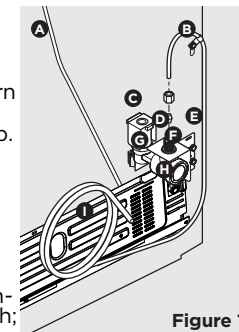

Figure 1
4. **If you use copper tubing**, slide brass compression nut, and then ferrule (sleeve) onto water supply line. Push water supply line into water valve inlet as far as it will go (1/4" / 6.4 mm). Slide ferrule (sleeve) into valve inlet and finger tighten compression nut onto valve. Tighten another 1/2 turn with a wrench; **DO NOT** overtighten. See Figure 1.